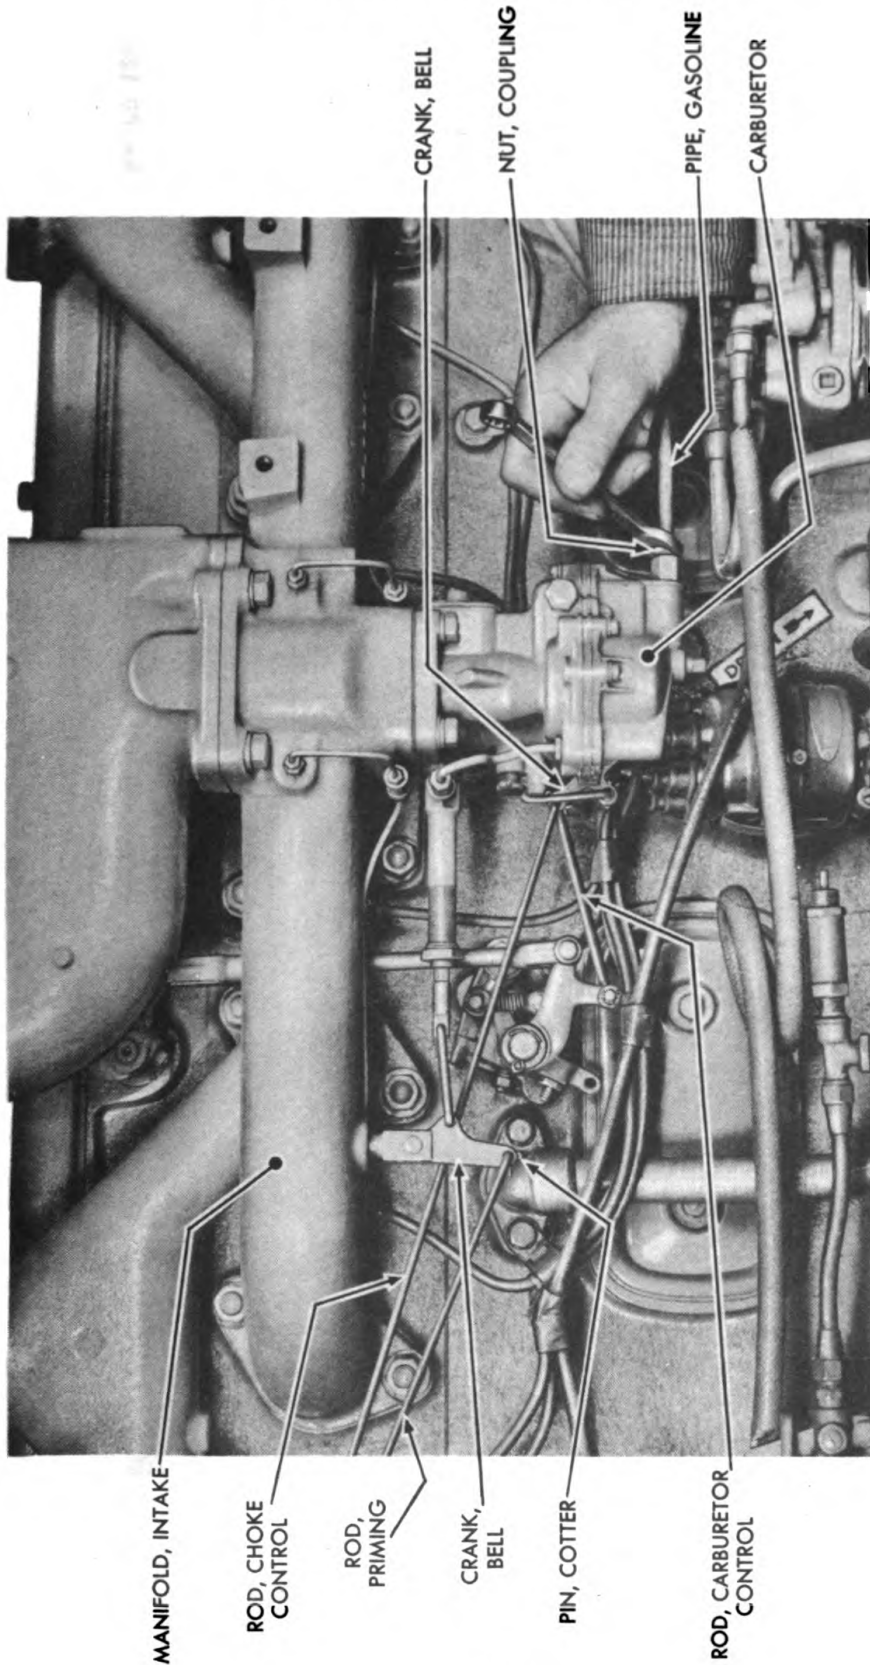

Figure 137 — Intake Manifold and Related Parts (Disconnection of Gasoline Pipe)
(7) **DISCONNECT GASOLINE PIPE COUPLING NUT** (fig. 137).
(8) **DISCONNECT PRIMING ROD FROM BELL CRANK** (fig. 137).
(9) **DISCONNECT CHOKE CONTROL ROD FROM BELL CRANK** (fig. 137).